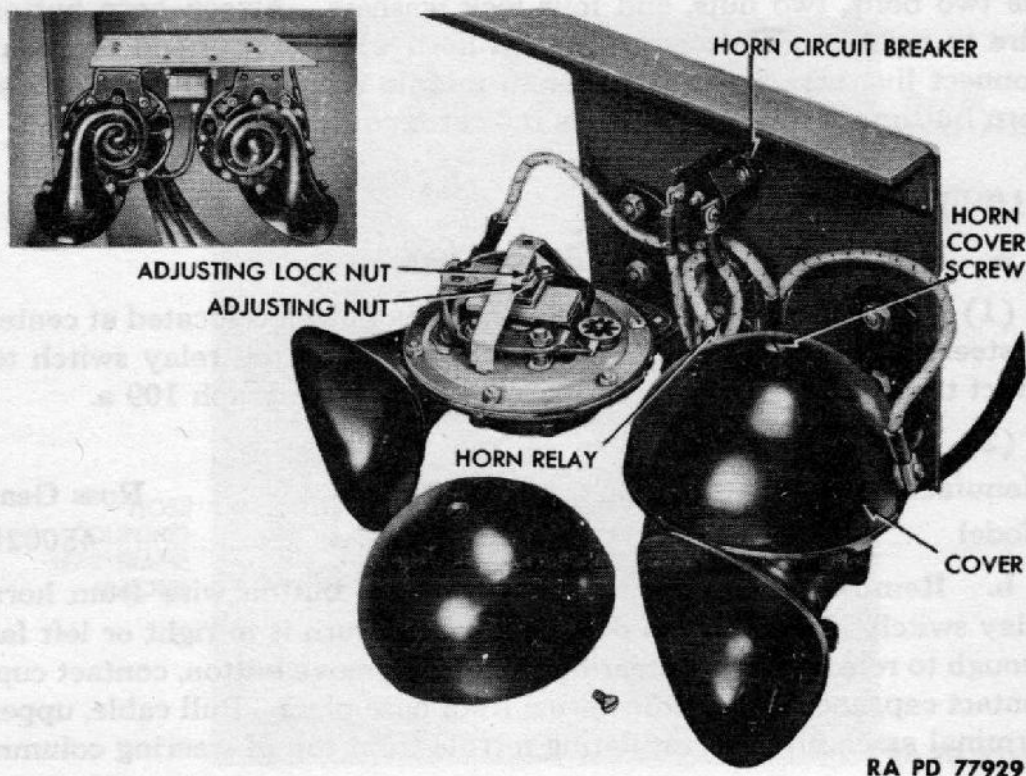

Figure 74 - Twin Horns
b. Adjust Horns (fig. 74). Horns do not require adjustment unless they have been tampered with or otherwise damaged. If adjustment is necessary, adjust as follows: Remove horn cover screw, and lift cover from horn. Loosen adjusting nut lock nut. Screw or unscrew adjusting nut until desired pitch is obtained. Keep adjusting nut from turning, and tighten lock nut. Position cover on horn, and secure with cover screw.
c. Removal (fig. 74). Disconnect wire from horn terminal. Remove the two nuts, bolts, and four lock washers which secure horn to supporting bracket. Remove horn.
d. Installation (fig. 74). Position horn on bracket. Secure with
(1) DESCRIPTION (fig. 74). A standard magnetic relay switch is attached to horn support bracket between horns. It serves to supply current directly from the ammeter to horns when horn button is depressed. Operation of horn button closes a circuit through the switch. This sends current through a coil in the relay, and thus creates a magnetic field. Magnetic field closes contacts to the horns, and thus completes the circuit.
(2) TABULATED DATA.
b. Removal (fig. 74). Disconnect wires from terminals on relay switch. Remove the two nuts, two bolts, and four lock washers which secure switch to bracket. Remove switch.
c. Installation (fig. 74). Position switch on bracket. Secure with
(1) **DESCRIPTION.** Five circuit breakers are mounted on the vehicle as follows: The ammeter circuit breaker and the magnetic switch circuit breaker are attached to cranking motor switch bracket under floorboard in front of operator's seat; the buzzer and fuel gage circuit breaker is attached to center of cowl over generator regulator (fig. 62); horn circuit breaker is attached to horn supporting bracket above horns (fig. 74); light circuit breaker is an integral part of the regulator which is attached to cowl dash at center (fig. 62). All circuit breakers are of the thermal type. Heat, produced by passage of excessive current due to a short circuit, causes the breaker to open and close intermittently until the short circuit is eliminated.